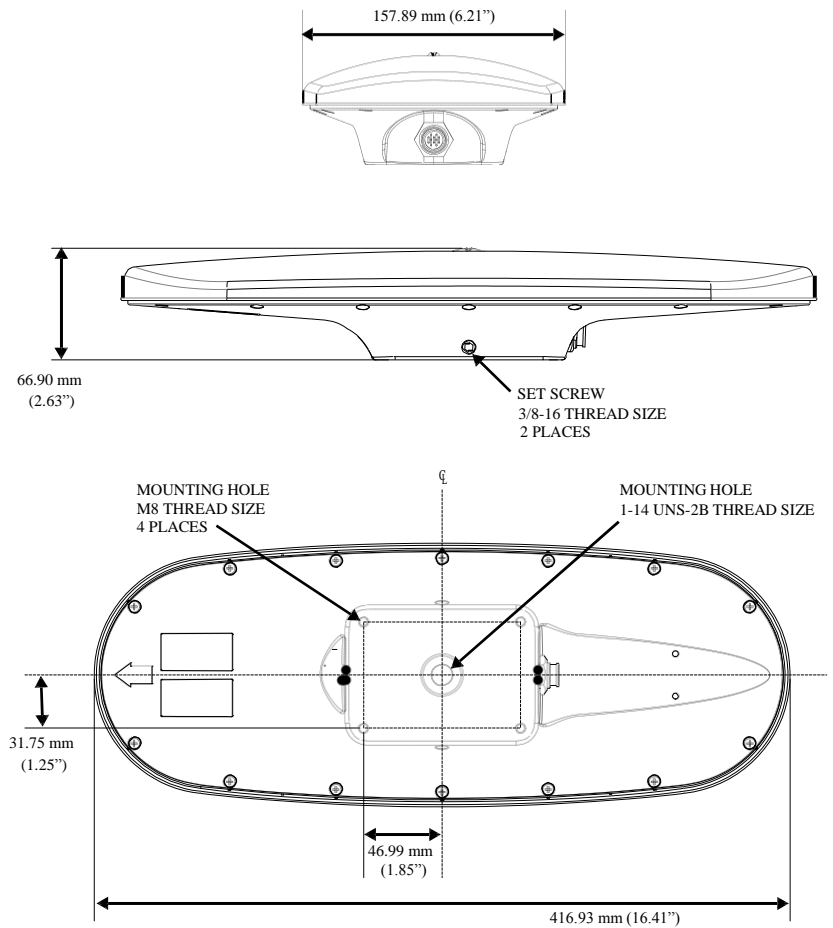

Figure 2-6: 3D dimensions
- Flush mount - The bottom of the 3D contains four M8 holes for flush mounting the unit to a flat surface (see Figure 2-6).
Figure 2-6 illustrates the physical dimensions of the 3D.
- Use the set screws on the long sides of the base (see Figure 2-6) to secure the 3D in place (3/16" Allen wrench not included)